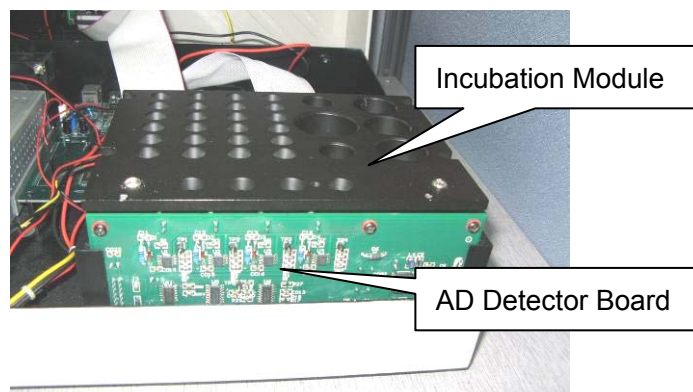

Figure 4-18
1. Switch off the power supply, remove the power cord, and open the upper cover of the analyzer, and incubation module and AD detector board can be seen as shown in Figure 4-18.